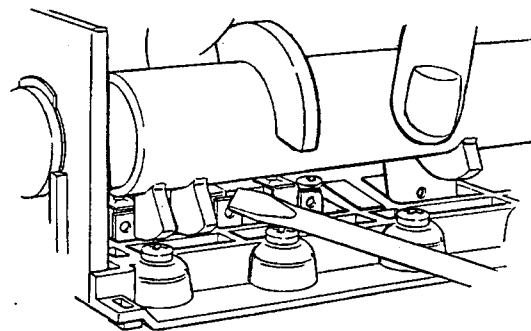

Figure 15
- Relieve system pressure by opening the drain flapper (the fifth flapper back from the control) with a screwdriver, Figure 15.